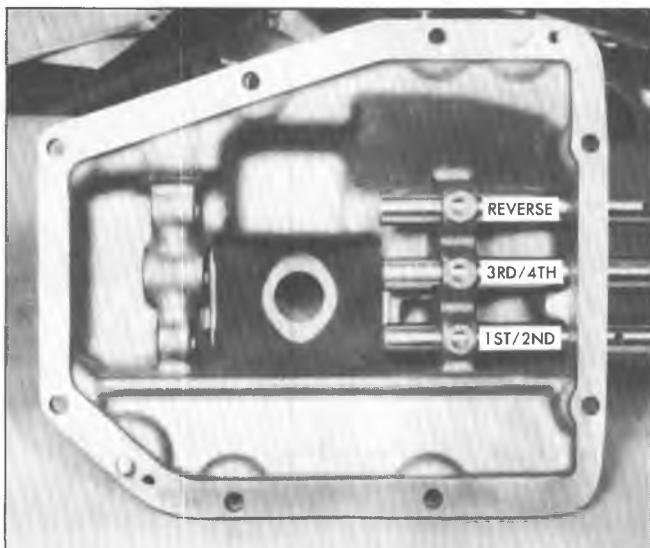

Fig. 7B-7L-Shifter Shaft Installation
**DRIVE GEAR (FIG. 7B-8L)****Disassembly**
1. Remove mainshaft pilot bearing rollers (17) from drive gear if not already removed, and remove roller retainer. Do not remove snap ring on inside of drive gear.